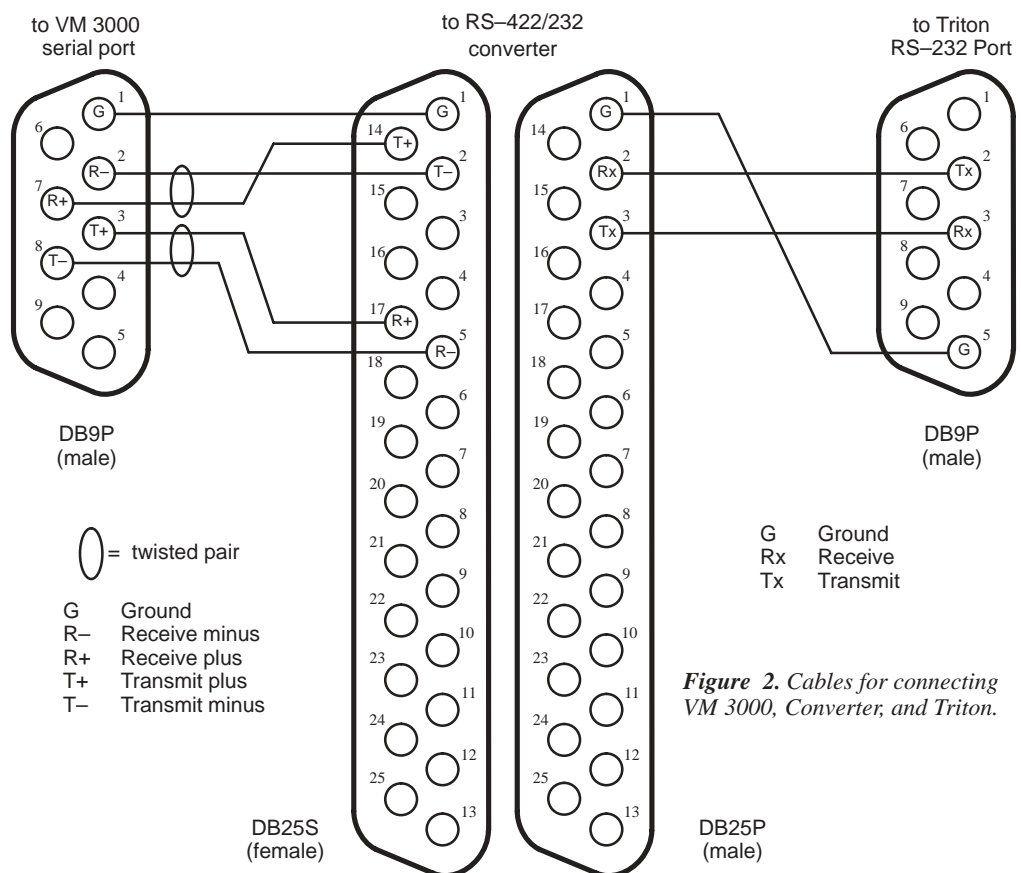

Figure 2. Cables for connecting VM 3000, Converter, and Triton.
6. Connect the 25-pin end of the **VM 3000 to Converter Cable** to the RS-422 side of the B&B converter. (Pinouts for this cable are shown in Figure 2.)